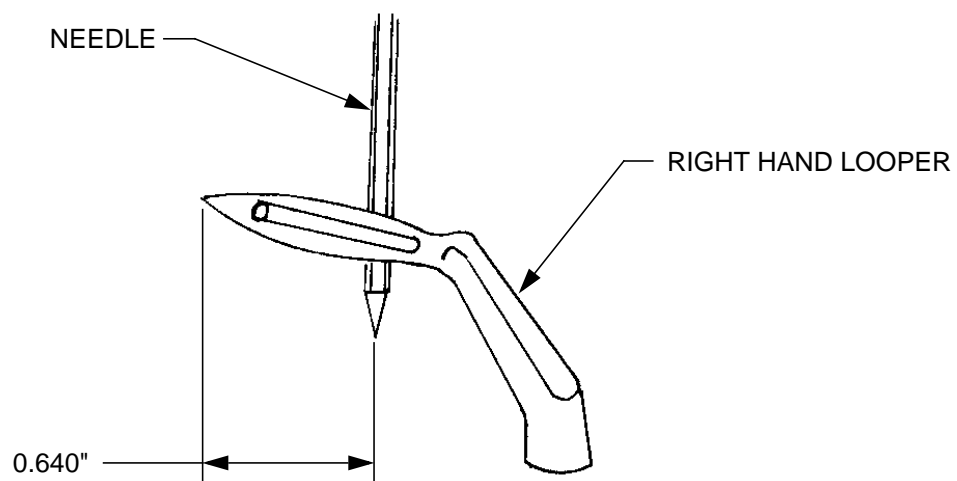

FIGURE 4 - RIGHT HAND LOOPER POSITION
- 5.2.4.2 The right hand looper gauge shall be set such that the point of the right hand looper passes 0.640 inch to the left of the centre of the needle when the looper is at its extreme left position (see Figure 4).